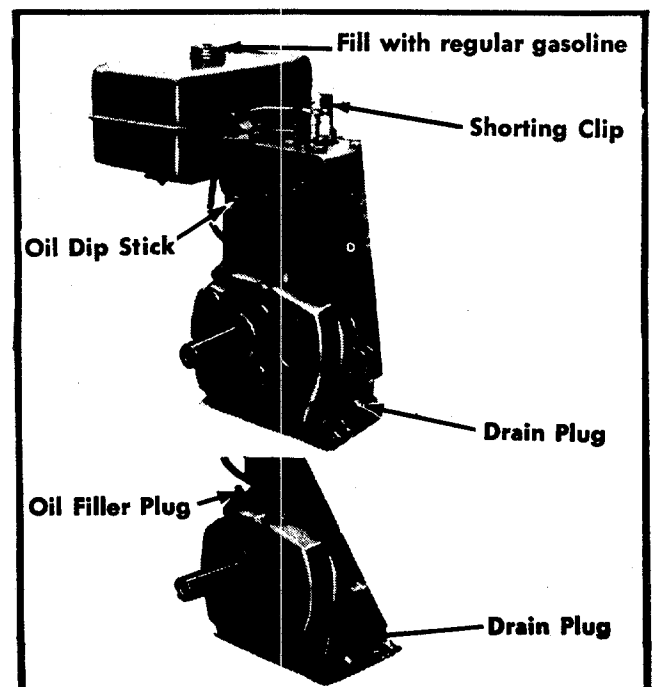

FIGURE 4.
1. Fill fuel tank with fresh regular gasoline. (See figure 4.)
2. Fill crankcase with oil. (See figure 4.)
1. Be sure shorting clip (figure 4) is away from spark plug if engine is so equipped.
1. Press shorting clip against end of spark plug (figure 4) and hold until engine stops running. If shorting clip is not present move carburetor control to STOP position. If key starting is used, turn key to OFF position.
Disconnect high tension wire at spark plug to prevent accidental starting of engine. Unscrew oil drain plug located on side at bottom of engine (figure 4).